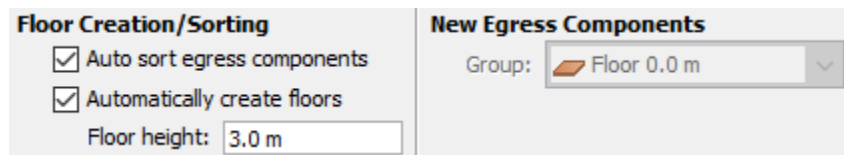

Figure 14. Floor Creation Panel
When nothing is selected in the model, the **Floor Creation** panel is shown, as in Figure 14. This panel controls the automatic creation of floors and automatic sorting of new objects into floors.
2. Clear the selection so that the **Floor Creation** panel is visible (Figure 14).